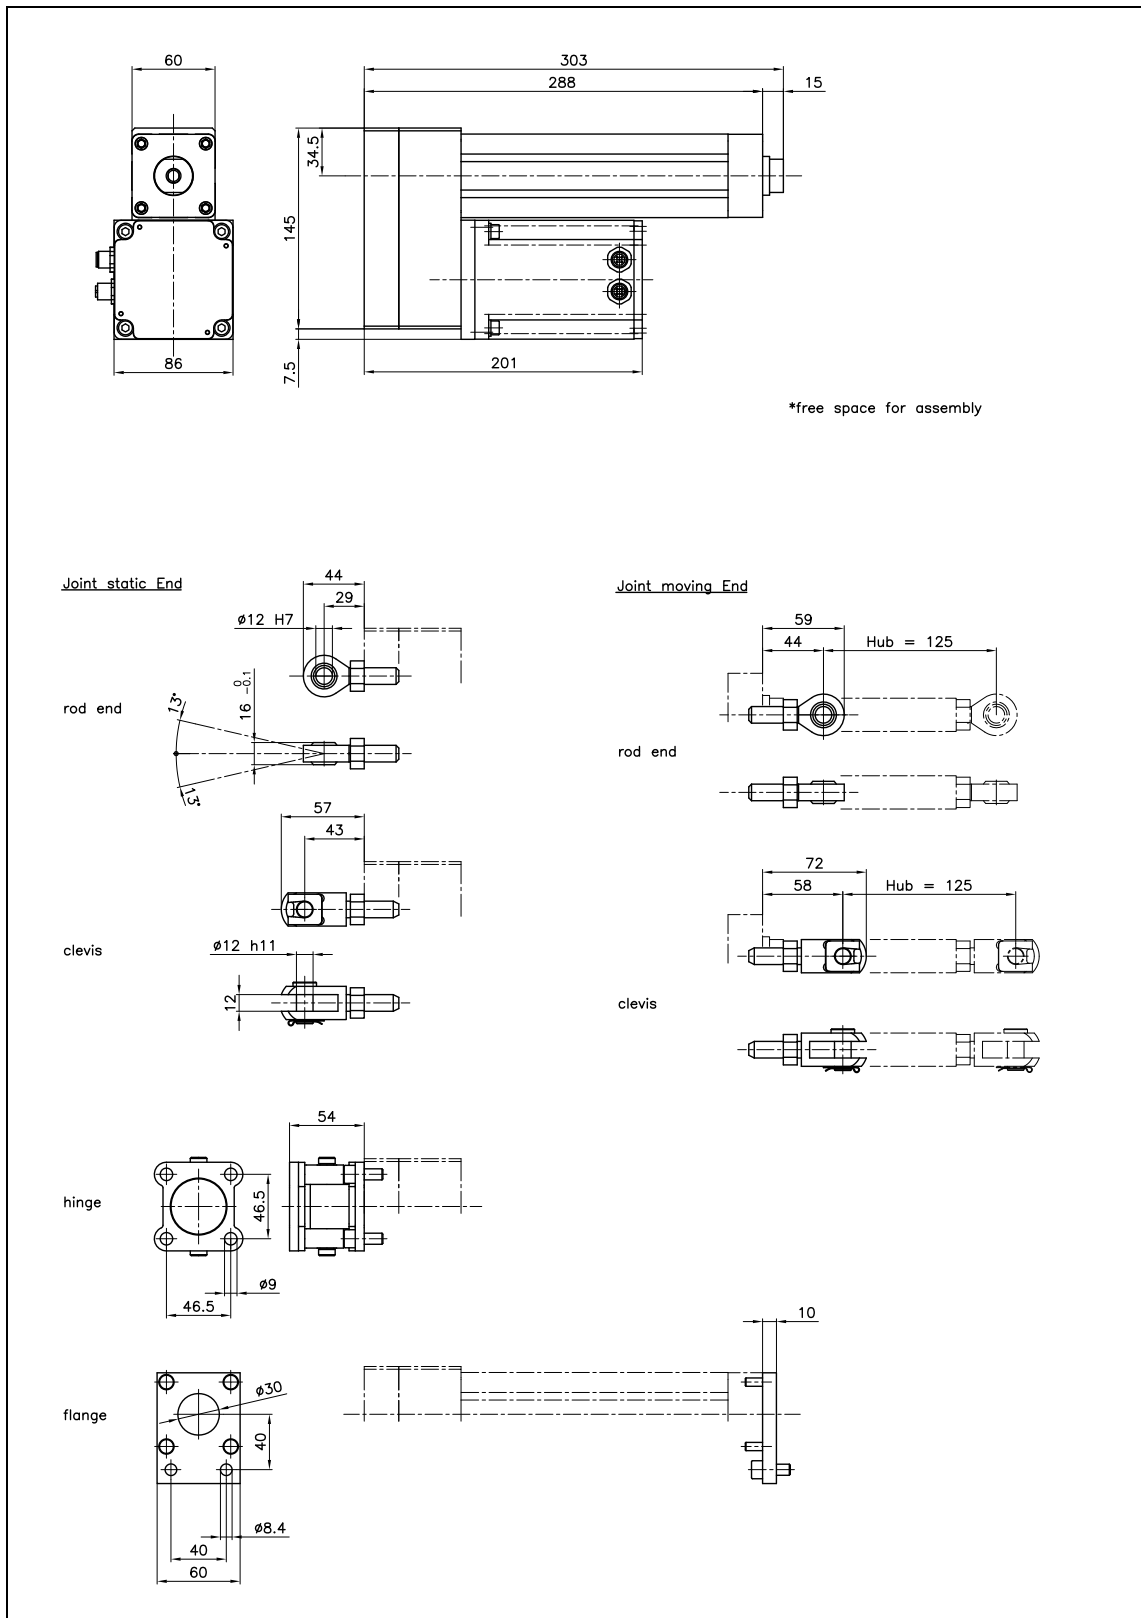

Fig. 3: Mounting Devices of BKS.D.6
*The attachment points for the winderGLIDE on the machine must be properly designed (refer to Fig. 3).*
These mounting devices can be combined according to the table below to meet the requirements of the application (see also Fig.3).